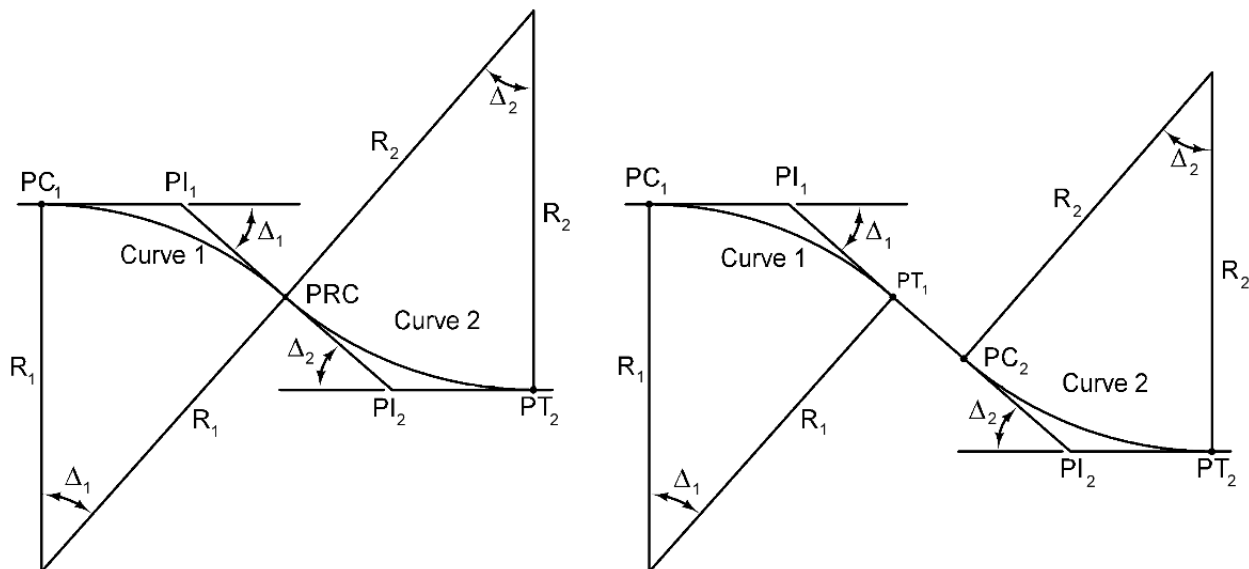

Figure 1: Reverse curves without and with a tangent section between.
A reverse curve is two adjacent, or nearly so, circular curves with deflections in opposite directions, see Figure 1. The curves may have equal or unequal radii and/or deflection angles. When the curvature and design speed dictate superelevation, a length of tangent is required to accomplish the necessary superelevation transition. The minimum tangent length between the curves is equal to the sum of 70% of the tangent runoff length (L) for each curve. Each of the curves in a reverse curve is treated in a similar manner as a horizontal curve (see Section 2A-1). Sections 2A-2 and 2A-3 provide more information concerning superelevation.